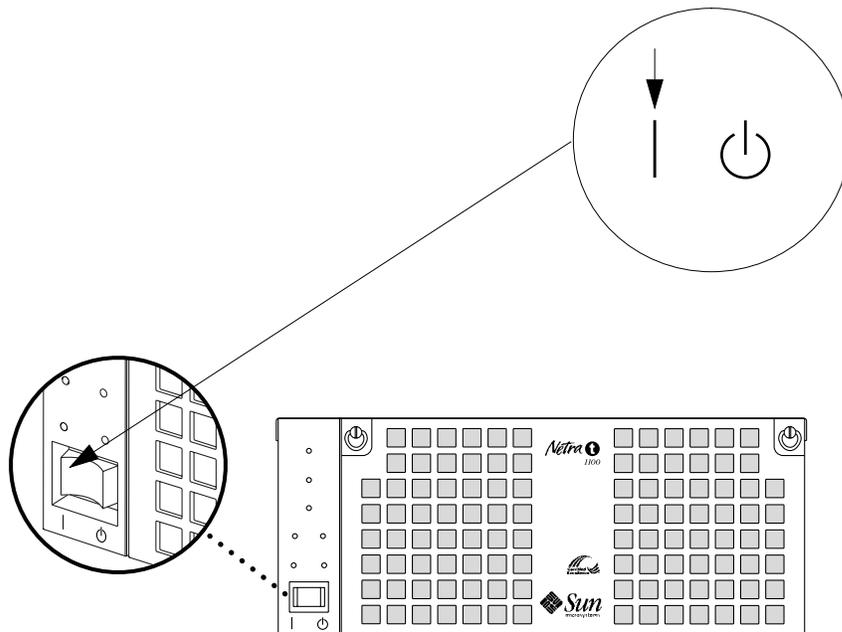

FIGURE 6-1 System Power-On (Front Panel)
2. Momentarily set the front panel ON/STBY power switch to the ON position (FIGURE 6-1).